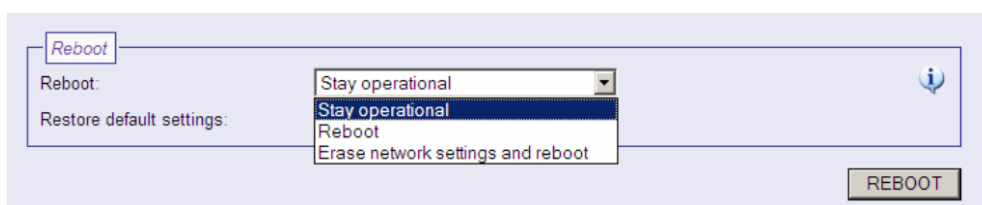

Figure 23. XNet 1800 SW Reboot options
- in the field marked 'Reboot' (figure 23), the 'Stay operational' option does exactly what it says: the unit will continue to operate even if the **REBOOT** button is activated (the similar button on the Network page however always makes the switch reboot).